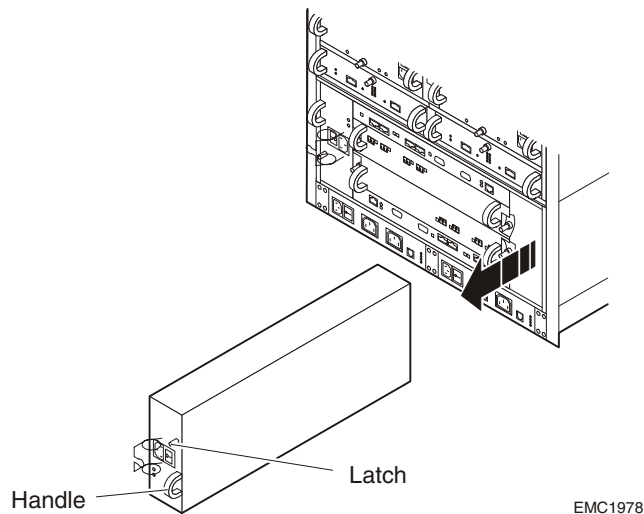

Figure 3-10 Removing the Power Supply
3. Turn the latch counter-clockwise to release the power supply as shown in Figure 3-10.
4. Grasp the handle with one hand and gently pull the power supply from the enclosure while supporting it with your other hand. See Figure 3-10.